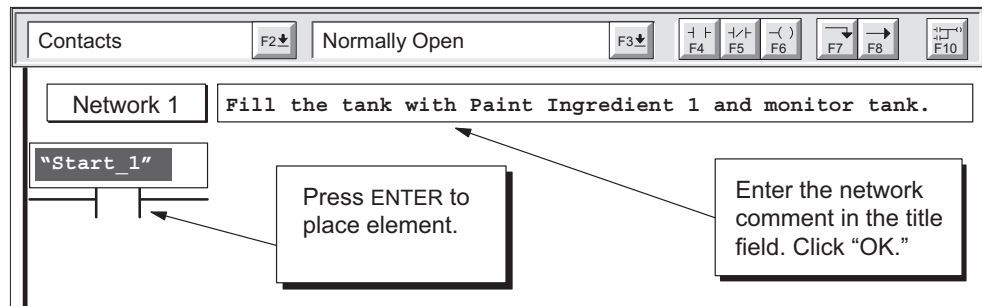

Figure 4-9 Entering the Network Comment and the First Ladder Element
1. Double click on or near the numbered network label to access the Title field in the Comment Editor. Type the comment shown in Figure 4-9, and click "OK."